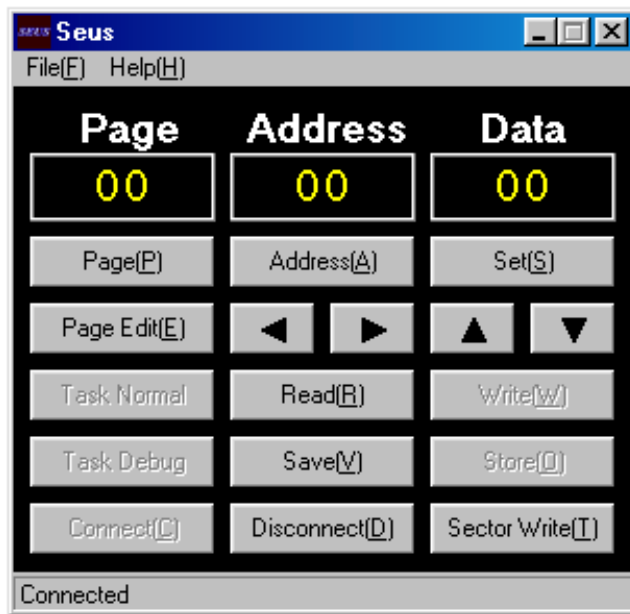

Fig. 6-1-9
- 5) Click **[Connect]** on the SEUS screen. If the connection is normal, the SEUS screen will be as shown in Fig. 6-1-9, indicating the “connected” state.